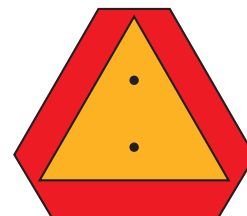

Figure 3-18: SMV Sign
- Transport during daylight hours whenever possible. Always use flashing warning lights, except where such use is prohibited by law. Make sure lights, reflectors and SMV emblem are clearly visible and operating. Remove any obstructions such as dirt, mud, stalks or residue that restricts view before transporting. **See Figure 3-18.**